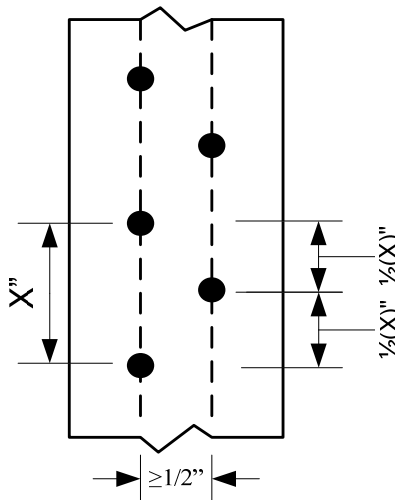

Figure 1. Spacing of multiple rows of nails.
- (d) Multiple rows in the edge orientation must be spaced 1/2 inch or more from each other and offset one-half of the tabulated minimum nail spacing, as shown in Figure 1.